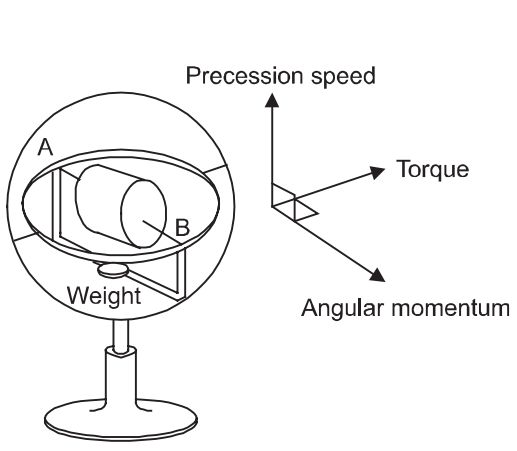
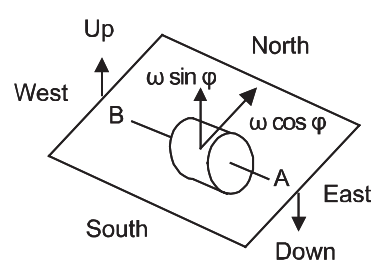
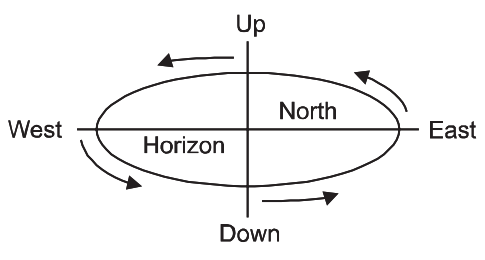

Figure 3
Figure 5
Figure 6
- (1) Quantitative: Angular momentum \times precession speed = torque
- (2) Direction: Vectors are shown in Figure 3.
Suppose that a weight is hanging under the supports as shown in Figure 3 such that the center of gravity for the entire gyro system, supports and weight is positioned directly under the intersection of two axes. If friction on both longitudinal and transverse supports is negligible at this time, the end of the longitudinal axis A oscillates up and down and right and left in an elliptical orbit due to the gravitational force and spinning action of the earth.
If the gyro shown in Figure 3 is placed on point p with A facing east and B facing west and with the A-B axis horizontal (Figure 5), the orientation of the gyro remains the same. However, since the inclination at this point on the earth remains the same as time elapses, the end-point A of the A-B axis rises and the end-point B goes down relative to the horizontal plane. Then, precession is carried out as the weight generates a torque to return the A-B axis to the horizontal position. When end-point A arrives at the meridian with the gyro tilted, the tilt is at its maximum and end-point A continues to turn towards the west. When end-point A enters on the west side of the meridian, the inclination starts acting so as to lower A. The torque caused by the weight gradually decreases and precession stops when end-point A reaches the west end. Then, likewise, end-point A goes down and begins pointing towards north. In such a manner, the orientation of the gyro spins around with north at its center in an elliptical motion as shown in Figure 6.